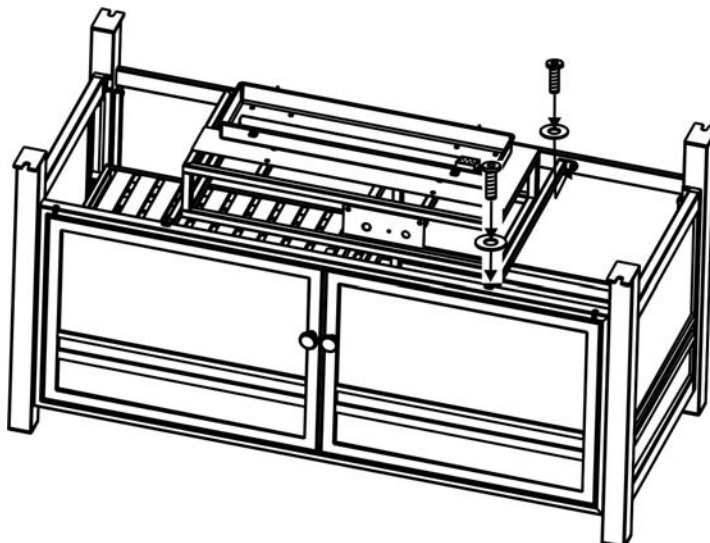

Figure 8
8. Attach the complete firepan/burner assembly to back panel with door panel by using four 1/4"x20 mm bolts and washers as shown in Figure 8. Hand tighten only.